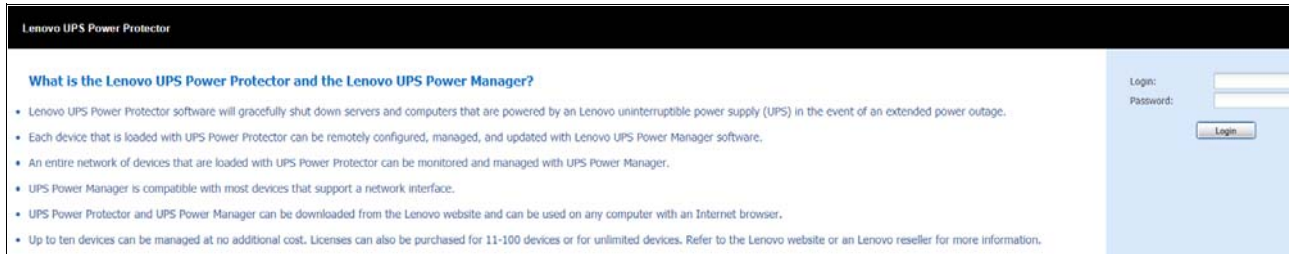

Figure 8 Lenovo UPP login interface
4. Click the **Finish** button. A login screen will be displayed as seen in Figure 8. The default login credentials are: